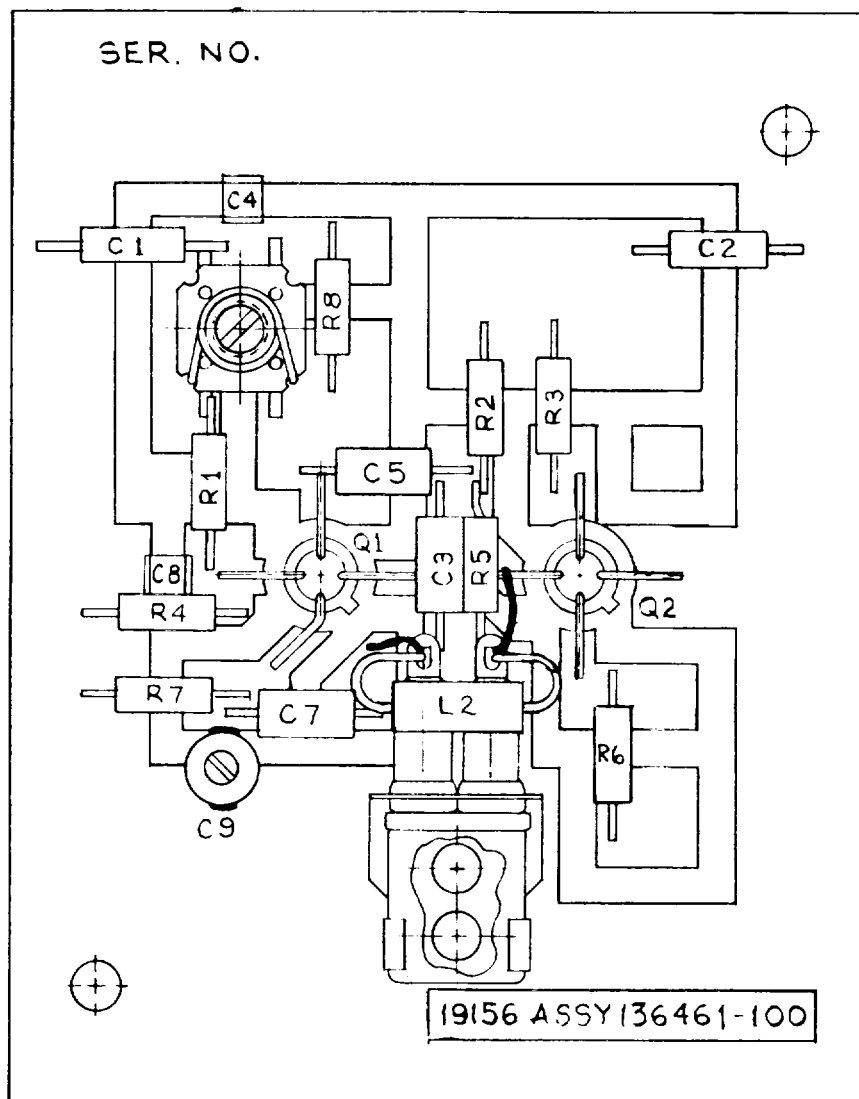

Figure 6-5. Oscillator Circuit Card Assembly, 1A4A3A1 Parts Location Diagram
e. Oscillator Circuit Card Assembly (1A4A3A1) Disassembly. This circuit card assembly should be removed only when servicing or component replacement is required. To remove this circuit card, perform the following procedures. Refer to figure 6-5 for location of component to be replaced.
- (1) Remove the two screws attaching the oscillator assembly to the chassis.
- (2) Remove the six screws from the cover of the oscillator assembly.
- (3) Unsolder the buss wire from feed-through capacitor C5.
- (4) Remove the two nuts from the mounting screws.
- (5) Remove the two mounting screws.